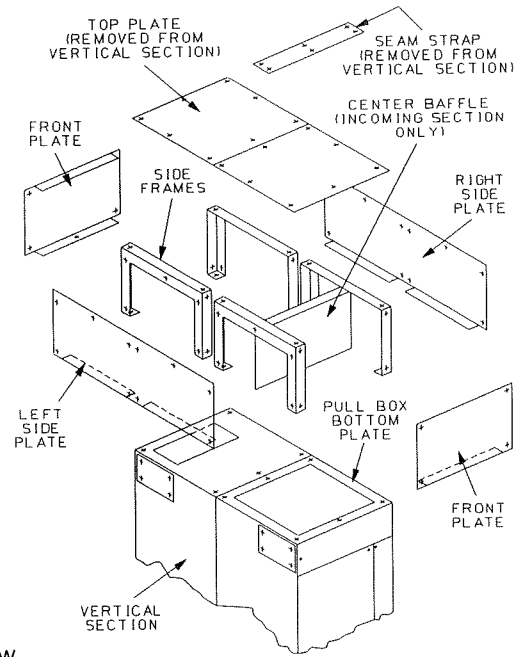

**Figure 3**
**Back-to-Back sections:** Use Figures 3 and 4 to assemble parts.